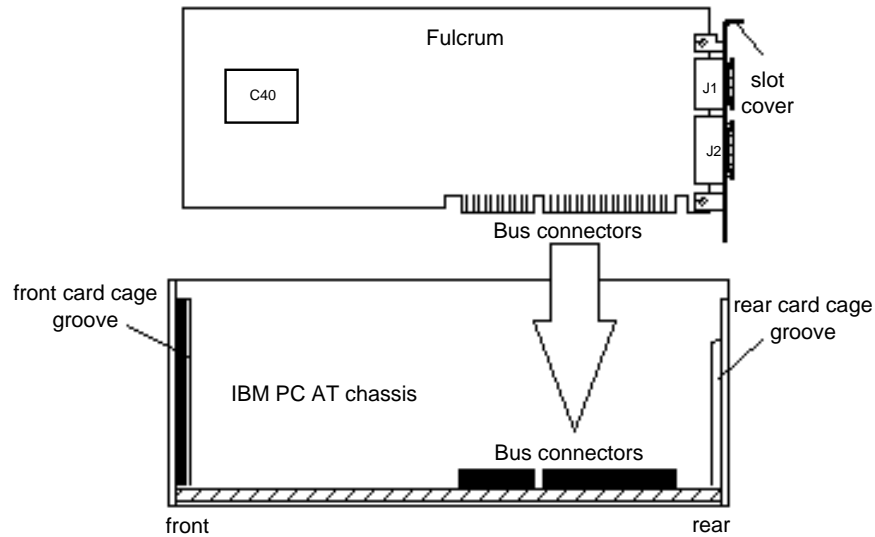

Figure 5: Installing the Board
8. Remove Fulcrum from its protective anti-static bag. Holding the board by its edges, position it so that the rear panel connectors (J1 and J2) face the rear of the computer, as shown in Figure 5 on the following page.